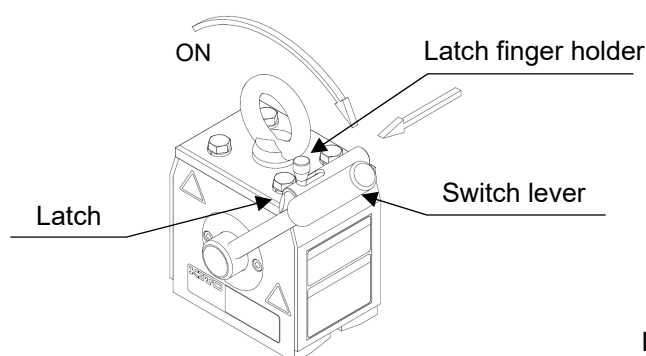

Figure 10-1 KRD8, KRD16
- (5)-1 Refer to Figure 10-1 for KRD8 and KRD16.